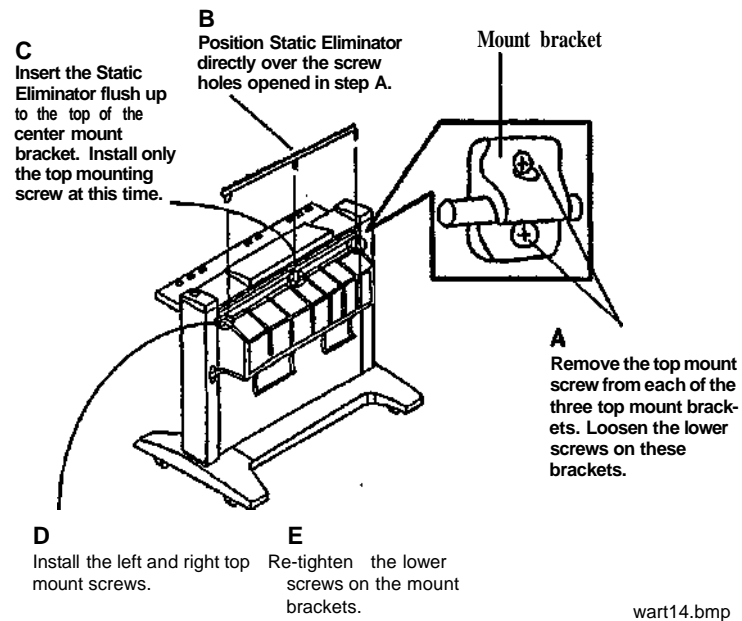

Figure 2 Replacing the Static Eliminator
1. (Figure 2): Replace the Static Eliminator.